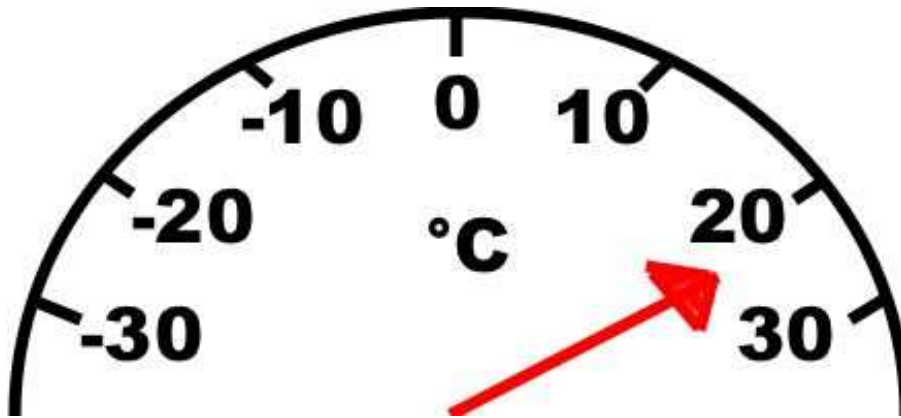

Figure 10.6: A motorized thermometer
- Create a thermometer based on a TMP36 temperature sensor and a servo motor. Its display could look like Figure 10.6; that is, you have to move an arrow that points to the current temperature.